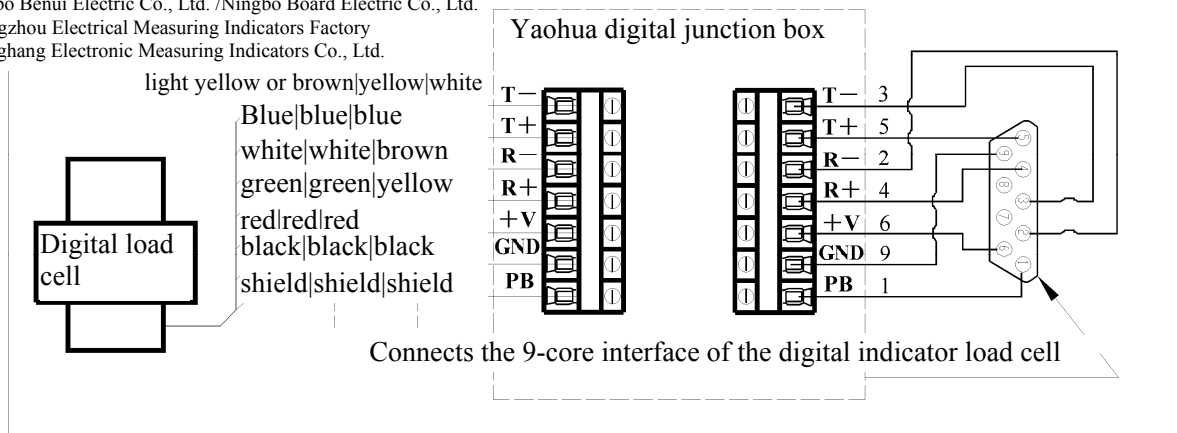

Figure 2-1-2 Schematic diagram for connection of digital load cell
2. XK3190-DS3 load cell interface adopts the interface mode of four-wire RS485 mode. See detailed connection mode in Figure 2-1-2.